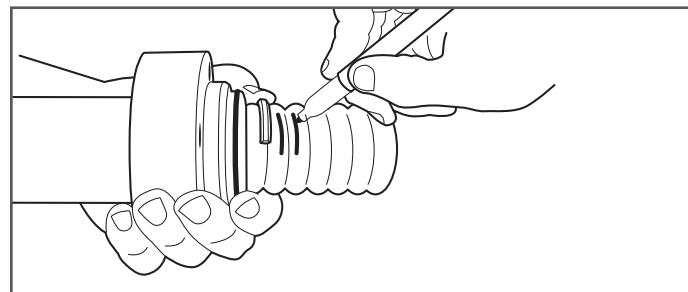

Figure 7-17
**18.** Mark DoubleTrac® piping for final cut. Once the middle section of the fitting has bottomed out on piping, place one split ring half in the corrugation closest to the middle section of the fitting. Ensure split ring drops into first corrugation freely. Place a mark on top of the first two corrugations that are past the split ring (Figure 7-17).